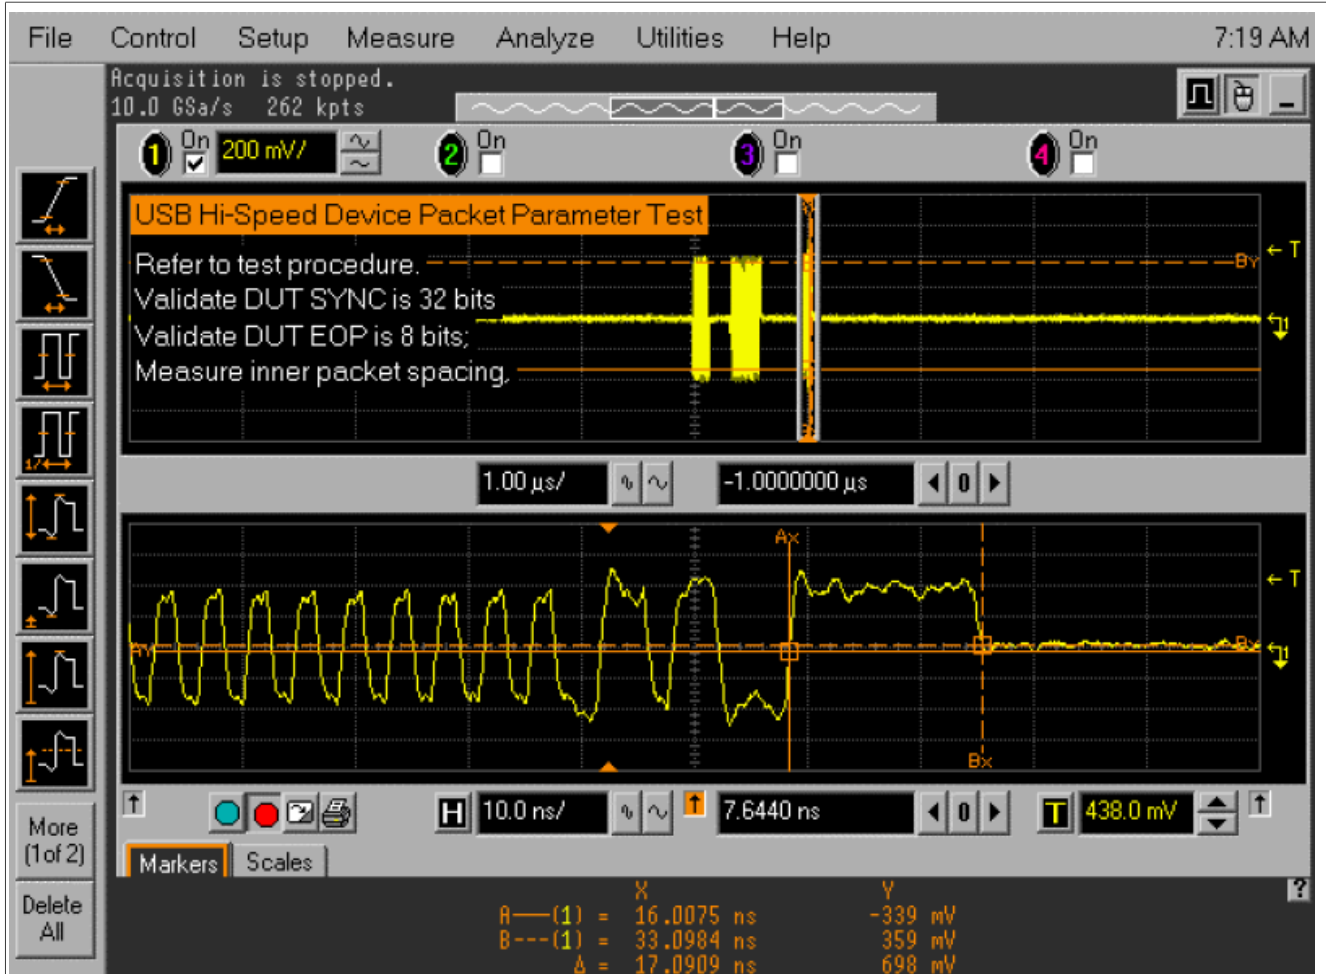

Figure 70. EL\_25 Host EOP Length Waveform
7. Host enumerates the HSEHET board and request **GetDescriptor()**, then wait for 15 seconds. After that, Host initiates an **IN** token, Device responds a **DATA**, then Host send an **ACK**. You should see the transmitted test packet on the oscilloscope as shown in Figure 70 below.